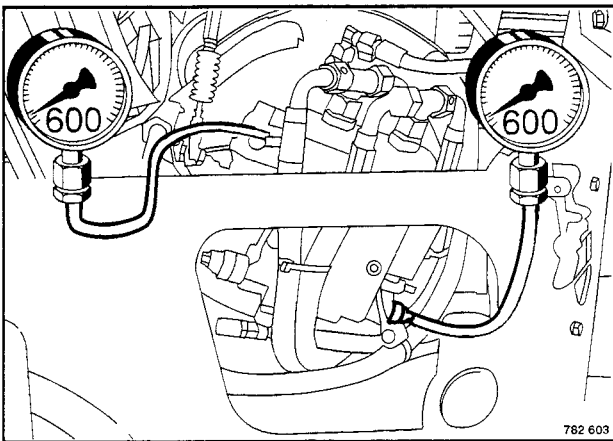

Fig. 7
4. Read the pressure gauges (Fig. 7).